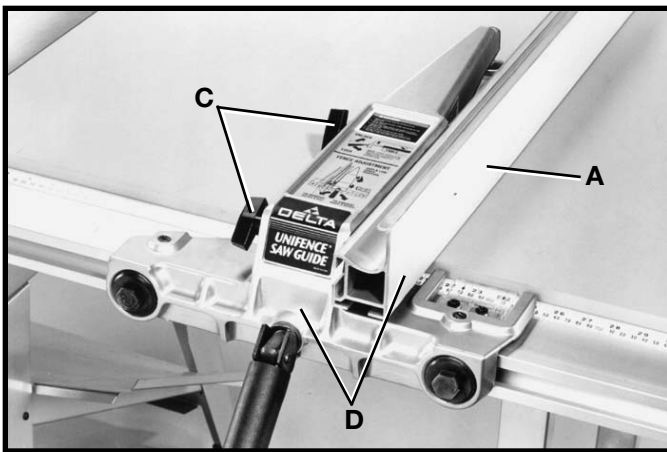
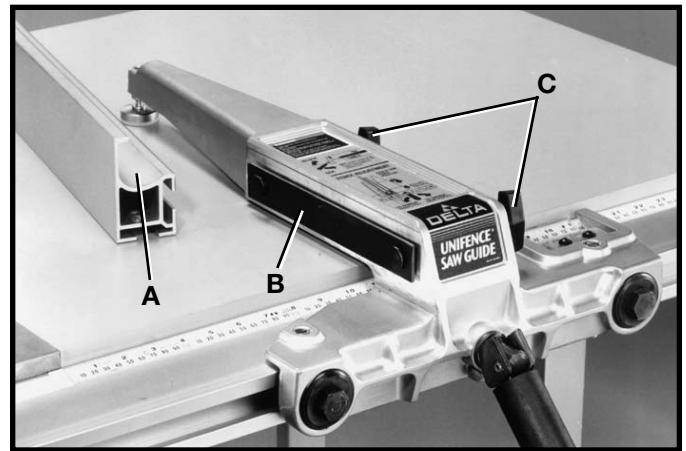

Fig. 130
Fig. 129
In some cases, it may be desirable to use the fence on the left side of the saw blade. This action is easily accomplished by repositioning the fence (A) Figs. 129 and 130, fence clamp bar (B), and lock knobs (C) so that the fence (A) will be attached to the right side of the fence body, (Fig. 130). The complete fence assembly (D) Fig. 130 can easily be moved to the left side of the saw table.